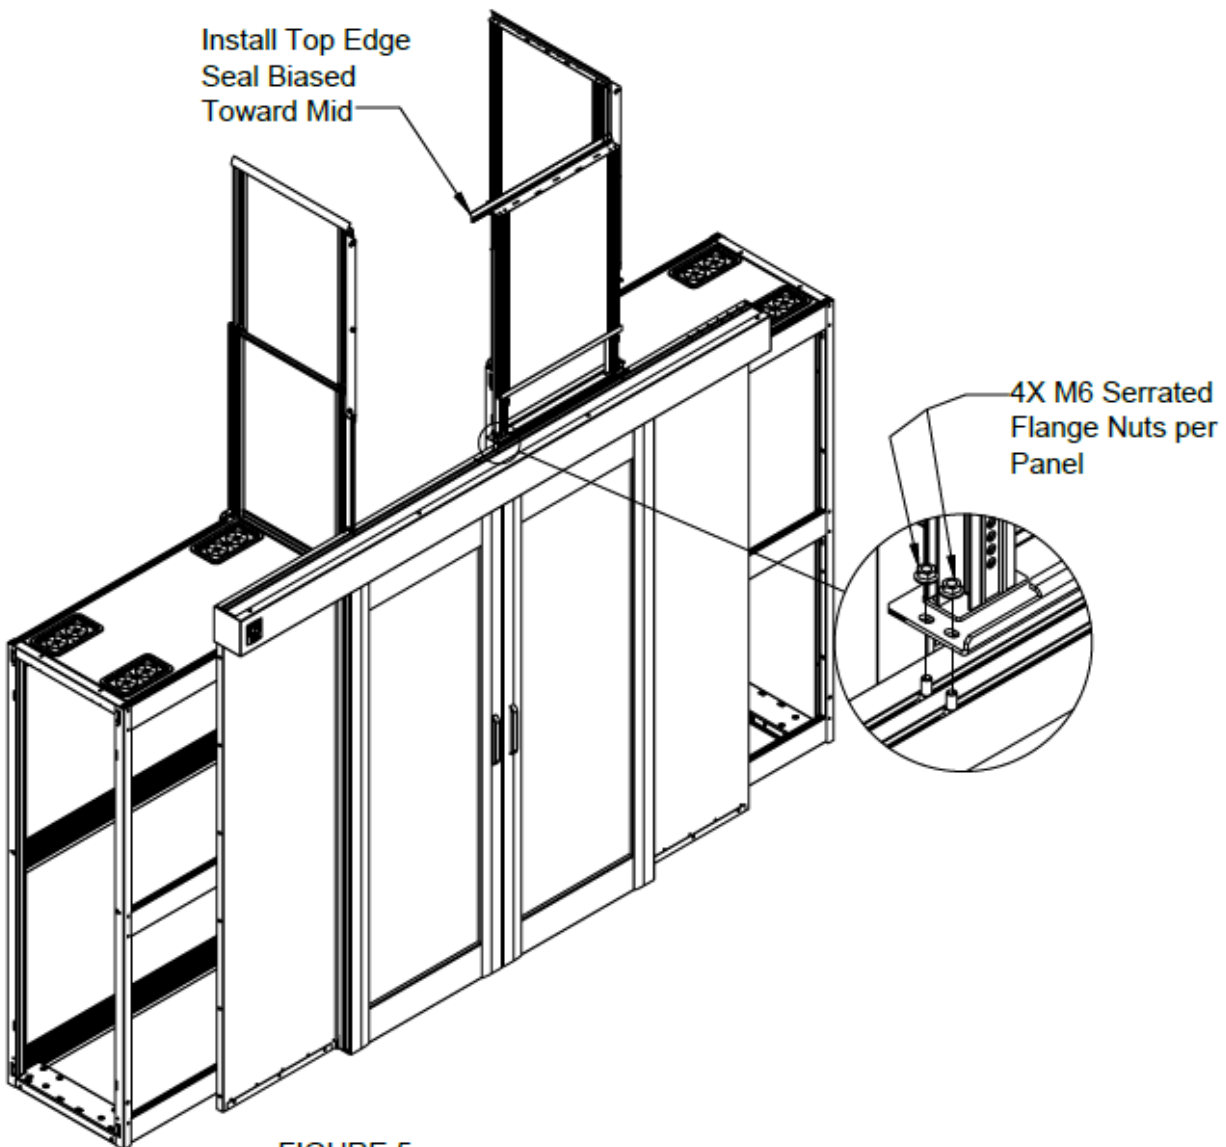

FIGURE 5.
4. Place the right-side End of Row Containment Panel onto the End of Row Door header. Align Qty (4) M6 studs with the slots on the bottom of the panel frame as shown in Figure 5.
5. Attach the lower frame using M6 Serrated nuts as shown. Install top edge seal onto panel aligning one edge to the corner bracket and the other edge biased toward the middle as shown in Figure 5.